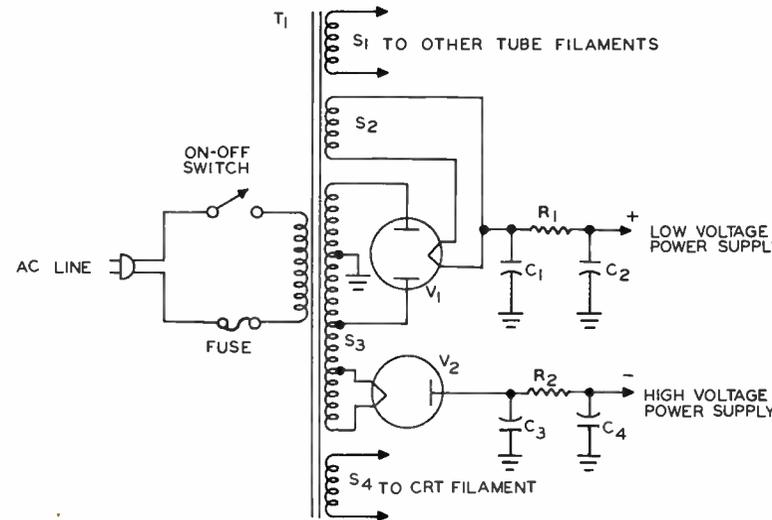

FIGURE 3
44. negative --  $V_{12}$  is connected to provide a negative output voltage as explained for Figure 3. The slider of  $R_{33}$  is more negative than the junction of  $R_{31}$  and  $R_{32}$ , making the grid negative with respect to the cathode.